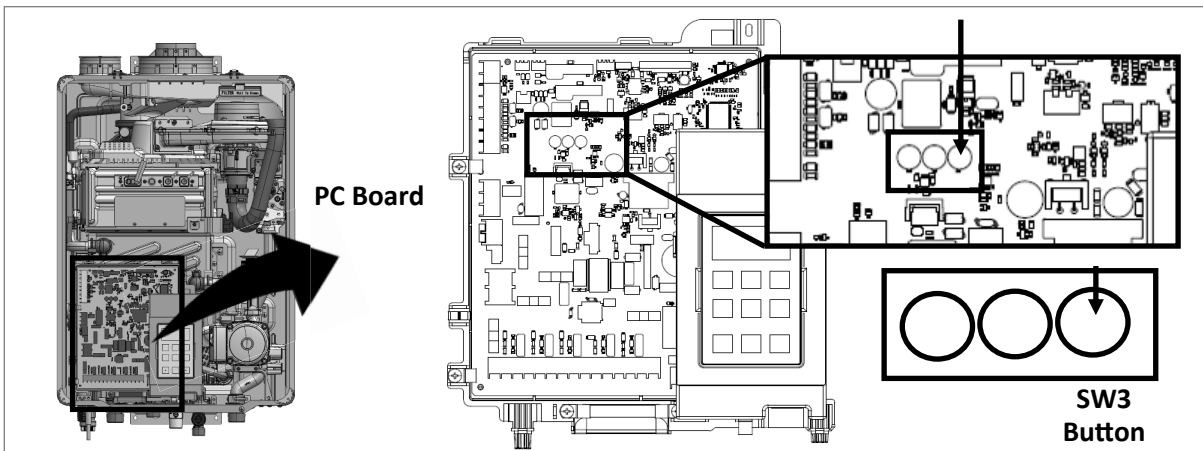
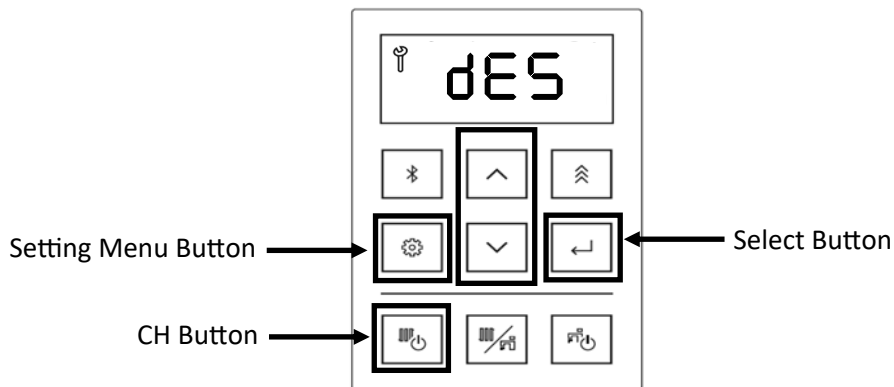

Figure 140
Figure 141
4. Press the SW3 button on the PC Board (Figure 140).
5. Press the up or down arrow button on the controller to select dES (descaling) (Figure 141).
6. Press the Select button to select the dES (Figure 141).
8. Press the Central Heating (CH) button to start the count down (Figure 141).
Note: If you need to cancel this procedure, you may press the Setting menu button on the controller (Figure 141), or press the SW3 button on the PC Board (Figure 140).